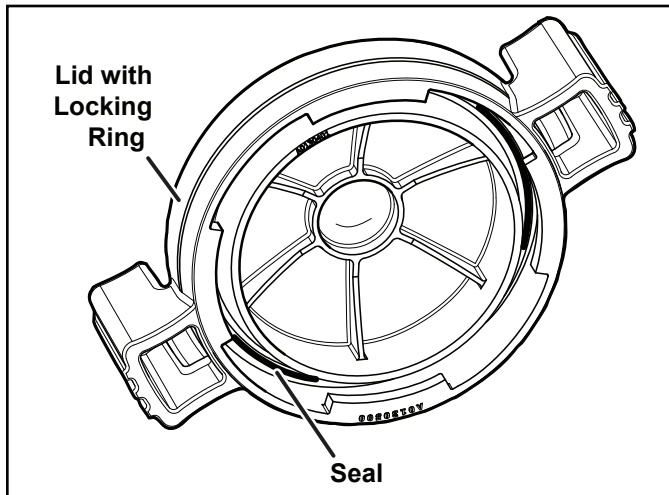

Figure 14. O-ring in Lid Assembly
4. Following the markings on the locking ring, turn the ring counter-clockwise until the 'START' markings align with the ports. See Figures 14 and 15.